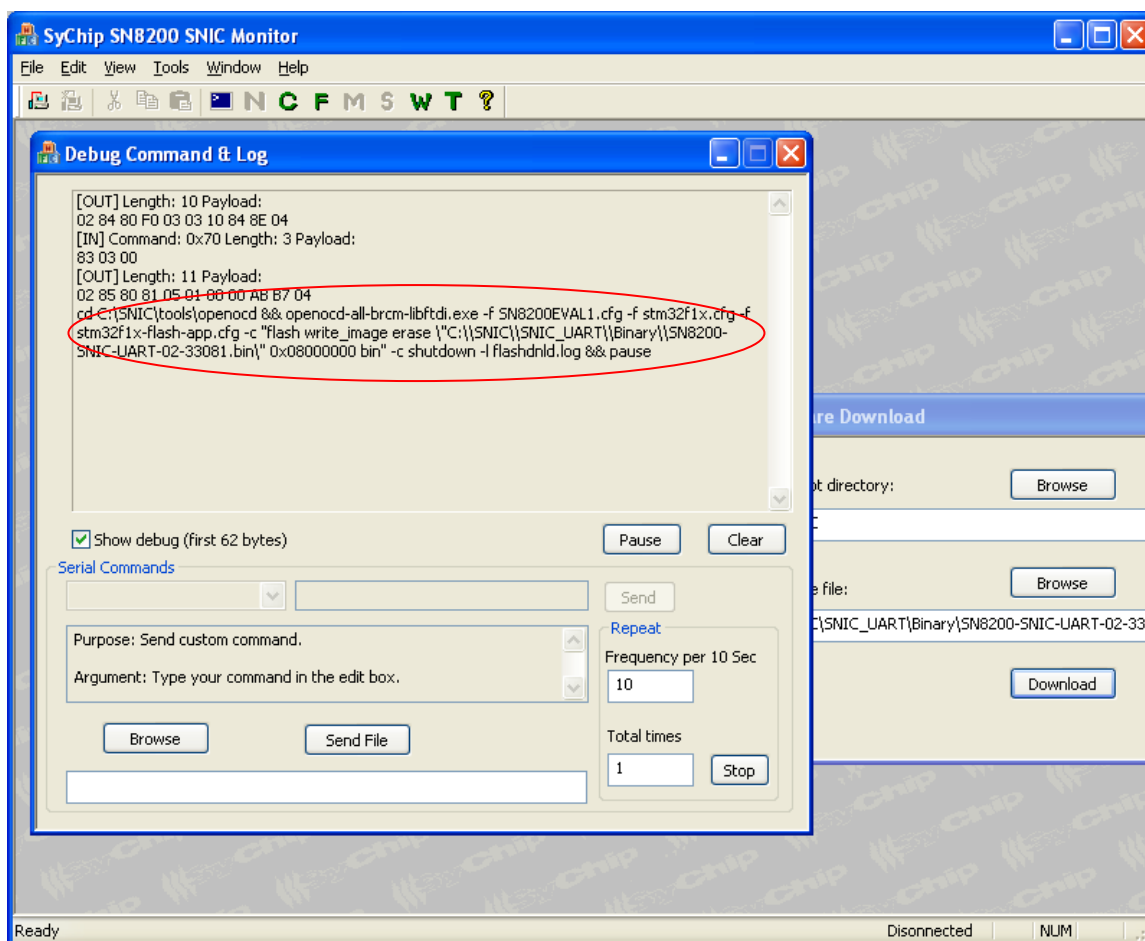

Figure 24 Download firmware command line
- Copy the command line from Debug window (see Figure 24) and paste it on the command window